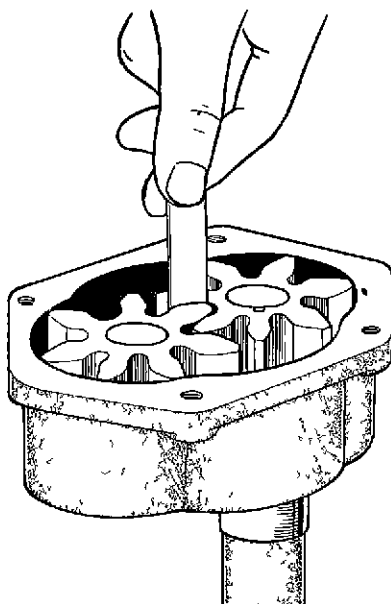

Figure 37 - Check Main and Idler Gears Backlash
(6) Measure backlash between main and idler gears with narrow feeler gage (Fig. 37). If backlash exceeds 0.2 mm, replace both gears.